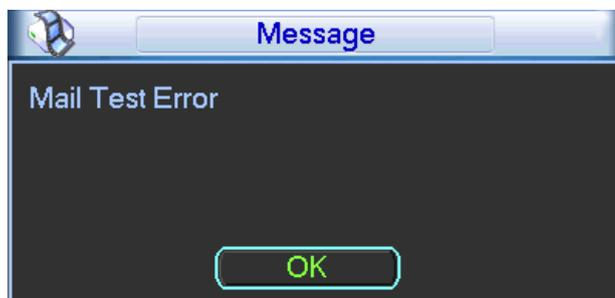

Figure 5-80
- Interval: Please check the above box to enable this function and then set the corresponding interval. System can send out the email regularly as you set here. Click the Test button, you can see the corresponding dialogue box to see the email connection is OK or not. See Figure 5-80.